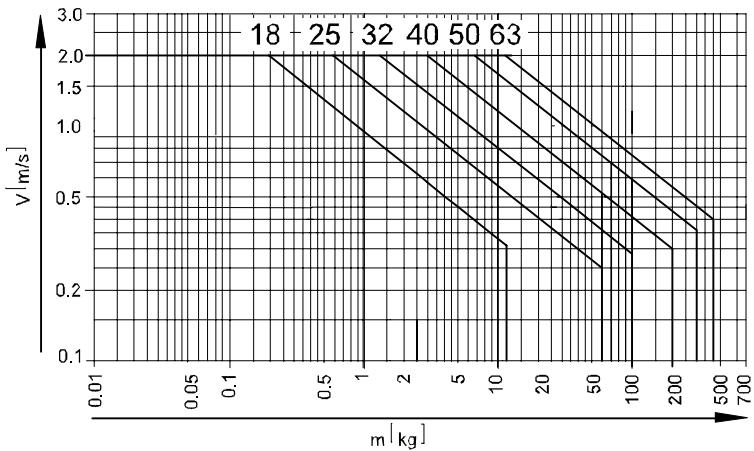

Fig. 22
The characteristic curves in Fig. 22 apply to:
Without external cushioning devices, the DGPI(L)-... may be damaged if the maximum values and speeds specified in Fig. 22 are exceeded.
- Make sure that the loadings of the DGPI(L)-... still lie within the permitted range: see chapter “Commissioning”, Fig. 22.